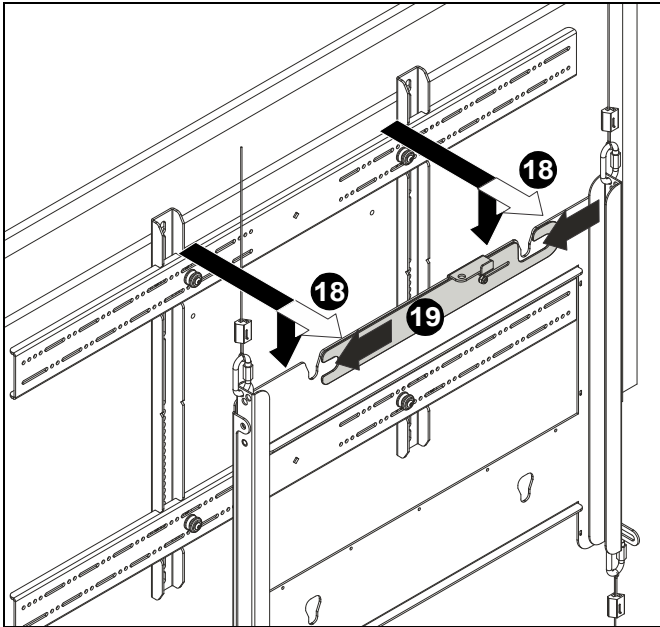

Figure 13
18. Lift display onto mount, carefully placing mounting buttons into mounting locations on faceplate. (See Figure 13)
19. Slide locking plate over mounting buttons to secure display to mount. (See Figure 13)